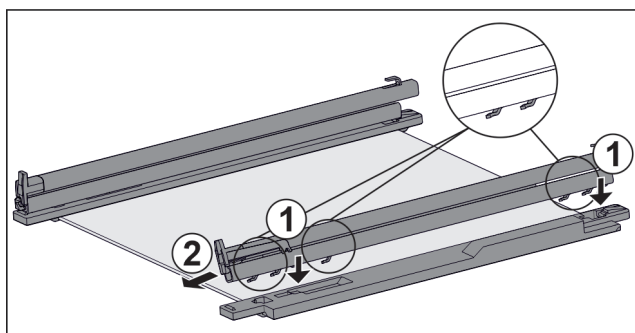

Fig. 159 Glass shelf with rails and retaining parts
- Place rail hooks onto the openings of the **left** retaining part. Fig. 159 (1)
- Push rail forwards. Fig. 159 (2)
- Place rail hooks onto the openings of the **right** retaining part. Fig. 159 (1)